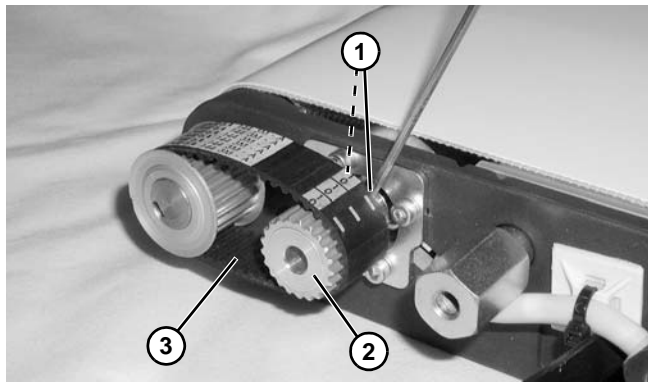

Figure 120
- Loosen two set screws (**Figure 120, item 1**) on drive pulley (**Figure 120, item 2**). Slide drive pulley outward off of gearmotor shaft and remove timing belt (**Figure 120, item 3**).